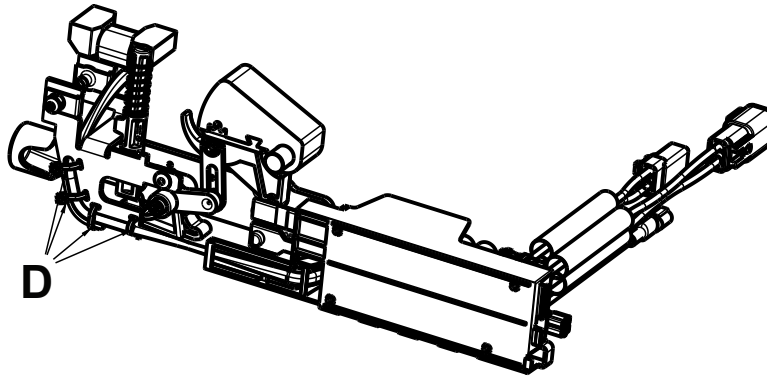

Figure 49 – Remove cable ties
10. Using diagonal pliers, cut the cable ties (D) that secure the coil wires to the wire management strap (Figure 49).